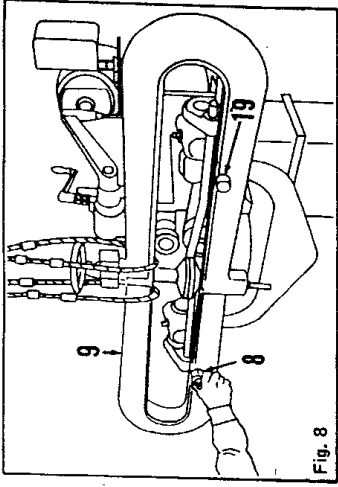

Fig. 8
5. With sling and crane, lift flanging attachment (9) (Fig. 8) onto adjusting rods (19). Install and tighten locknuts (8).